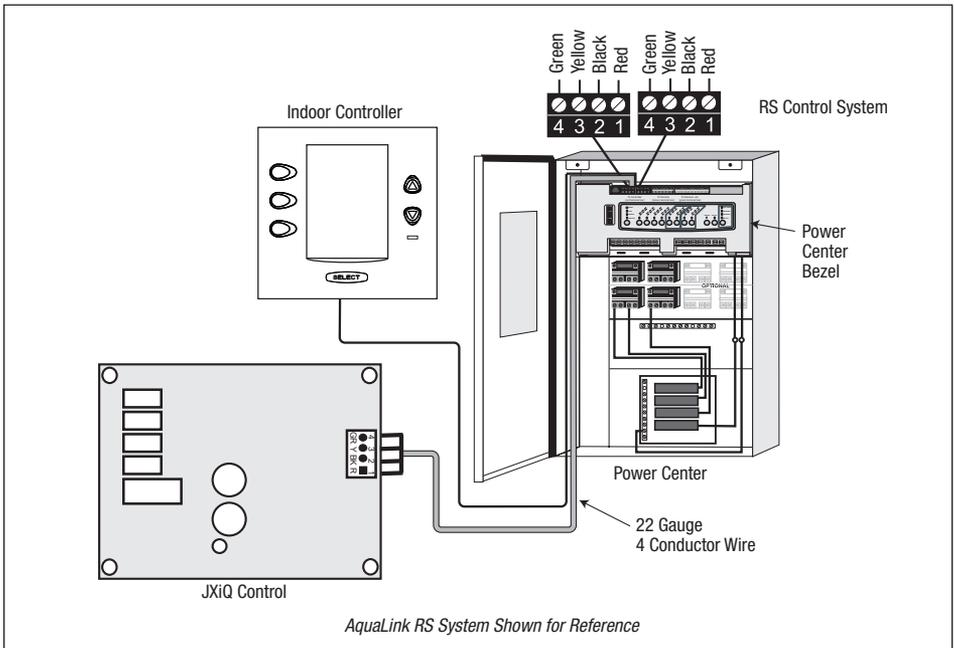

Figure 22. Wiring the JXiQ to a Jandy Remote
- Use 22 gauge 4-conductor wire to run between the heater and the control system and match the wire color order. See Figure 22.